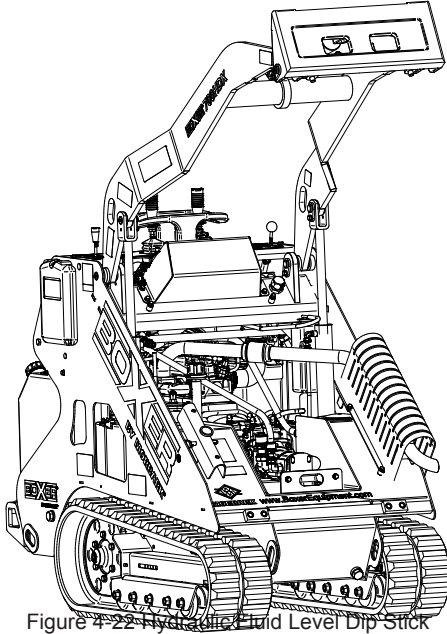

Figure 4-22 Hydraulic Fluid Level Dip Stick
5. Loosen the intake hose clamp (Item 2, Figure 4-22) at the top of the fuel filter assembly (Item 1, Figure 4-22). Slide the clamp along the fuel line (Item 3, Figure 4-22) away from the fuel filter assembly.